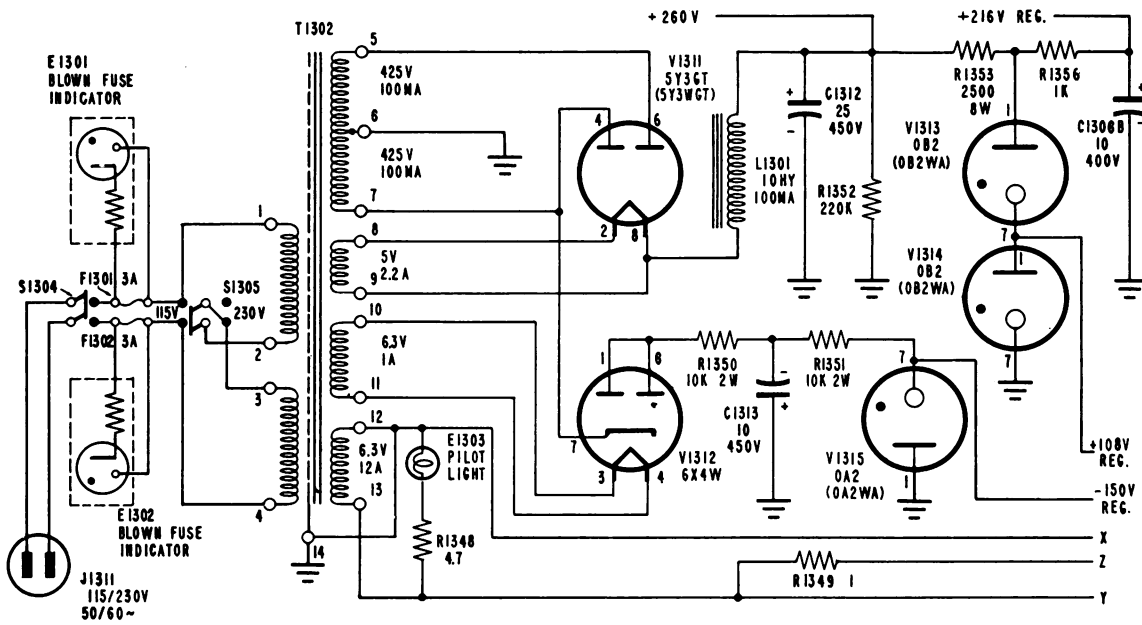

Figure 2-15. Schematic Diagram of Telegraph Carrier Receiver Power Supply Circuit
g. POWER SUPPLY CIRCUIT. - The schematic diagram of the power supply circuit for the Telegraph Carrier Receivers R-525/FCC-3 through R-536/FCC-3 is shown on figure 2-15. The 50/60 cycle 115/230 volt power is brought into the equipment through the jack J1311 and controlled by the OFF-ON POWER switch S1304. Both input lines are protected by 3 amp fuses F1301 and F1302. Blown fuse indicators are provided for each fuse. The 115/230 volt switch S1305 connects the two primaries of the power transformer T1302 either in parallel for 115 volt operation or in series for 230 volt operation. A 5Y3GT type full-wave rectifier tube V1311 provides a B+ source of approximately 300 volts which is filtered by the 10 henry choke L1301 and the 25 mf capacitor C1312. The 0B2 type voltage regulating tubes V1313 and V1314 together with the 2500 ohm voltage dropping resistor R1353 provide regulated sources of +108 and +216 volts for the plate circuits of the limiting amplifier and the DC amplifier. The 1000 ohm resistor R1356 and the 10 mf capacitor C1306 provide plate decoupling.